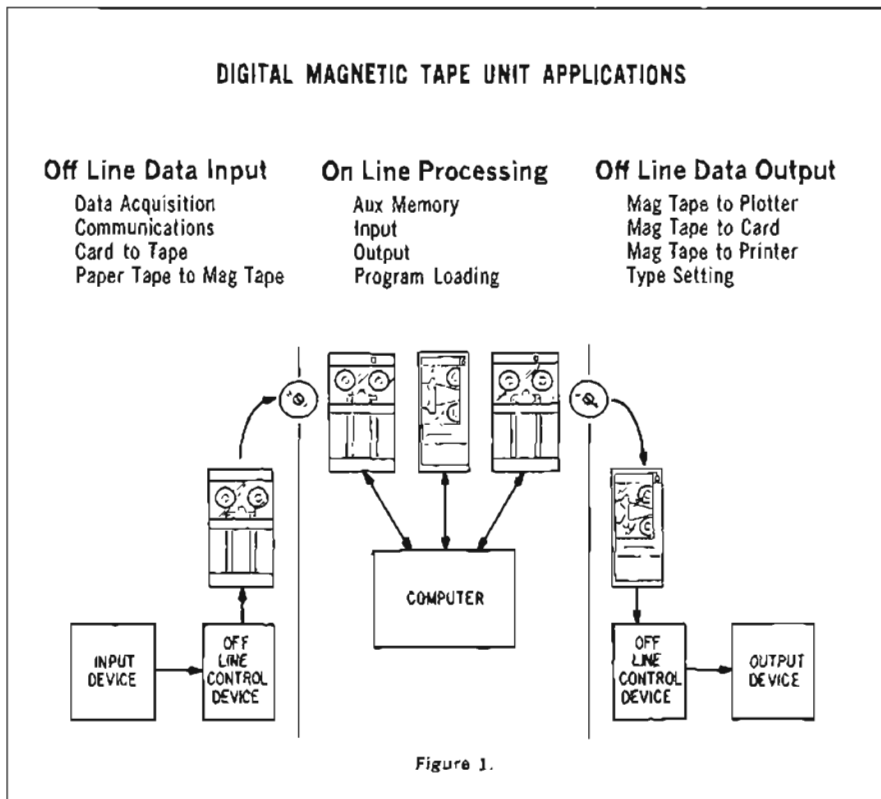

Figure 1.
Tape units of this type find use in three broad areas of application, as shown in Fig. 1: (1) the writing of digitally-coded data on magnetic tapes for later processing on a computer, (2) on-line with a computer, for data input, auxiliary memory, or data output; and (3) off-line processing of digital data previously written on magnetic tape by a computer or other digital device.
All Hewlett-Packard Digital Magnetic Tape Units are standardized on the industry-compatible IBM 7- or 9-track $\frac{1}{2}$ " digital tape formats, with NRZI recording. Your information, recorded on a 2020 or a 3030, can readily meet the industry requirements for the exchange of digital data between computers or digital systems. Regardless of the Application area (see Figure 1, opposite page), your recorded data will be compatible with that of others. Over 95% of all computer-compatible tapes are presently written in the IBM formats.